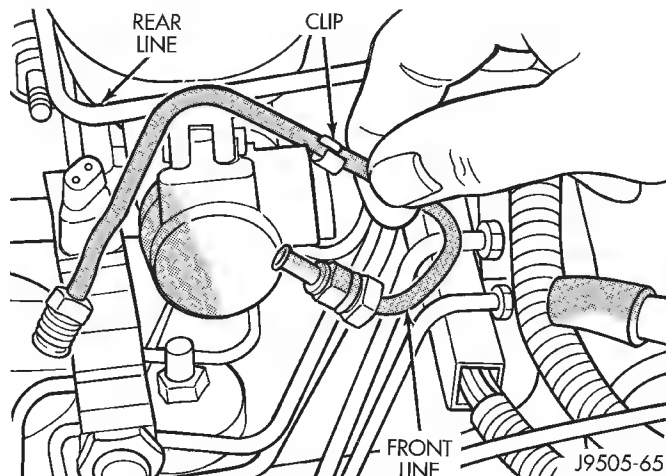

Fig. 12 Master Cylinder Front Brakeline Removal/Installation
(9) Unseat small S-clip that secures brakelines (Fig. 12).
(10) Remove brakeline that connects master cylinder front port to combination valve front port (Fig. 12).